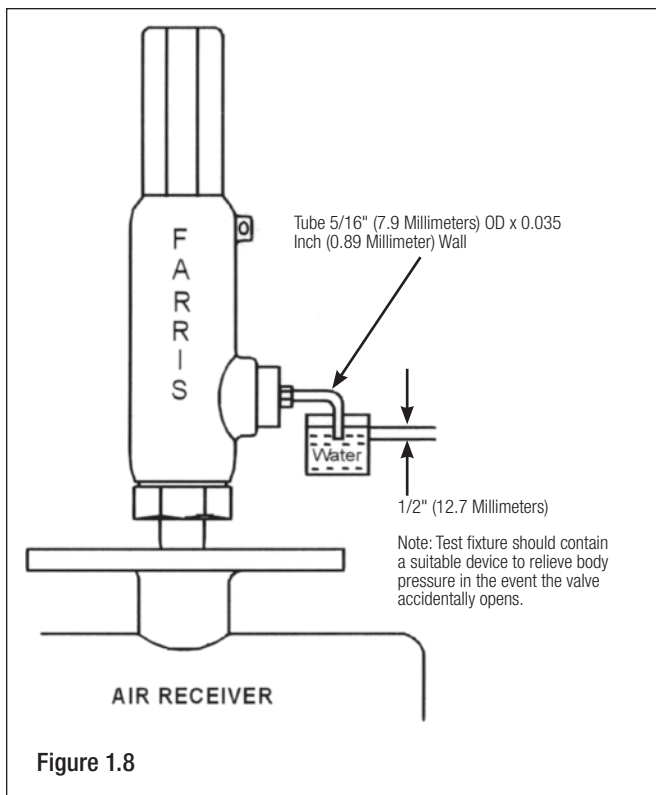

Figure 1.8
1. After the set pressure test, perform the seat leakage test. With the valve mounted on the test stand, attach a blind test fixture as shown in Figure 1.8 (air, gas & vapor service valves only). For steam and water seat leakage testing, see #4-5.